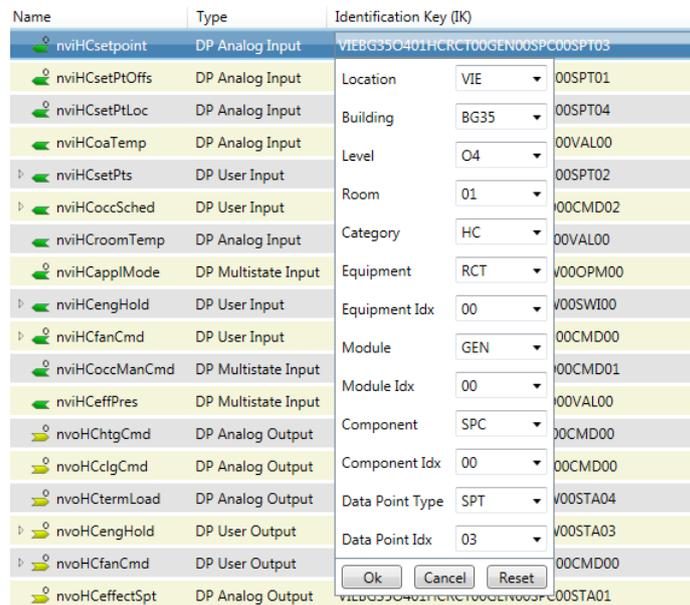

Figure 68: Assign Identification Key
1. In the object list view, click on the toolbar button **Configure columns** and add the **Identification Key (IK)** column.
- Click on the identification key which you want to change. The identification key is split into its fields as shown in Figure 68. For each field you can select one of the predefined values or enter a new value.